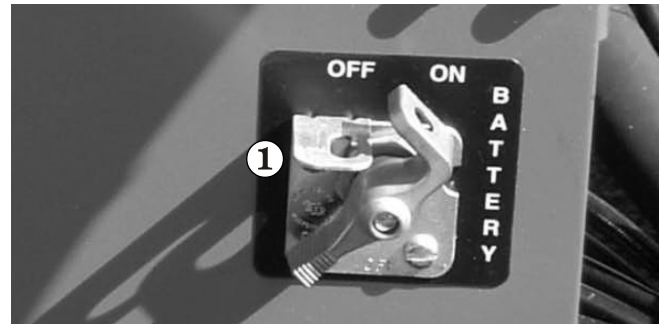

Figure 8.15
1. Set the **Battery** switch 1 to on (see Figure 8.15).